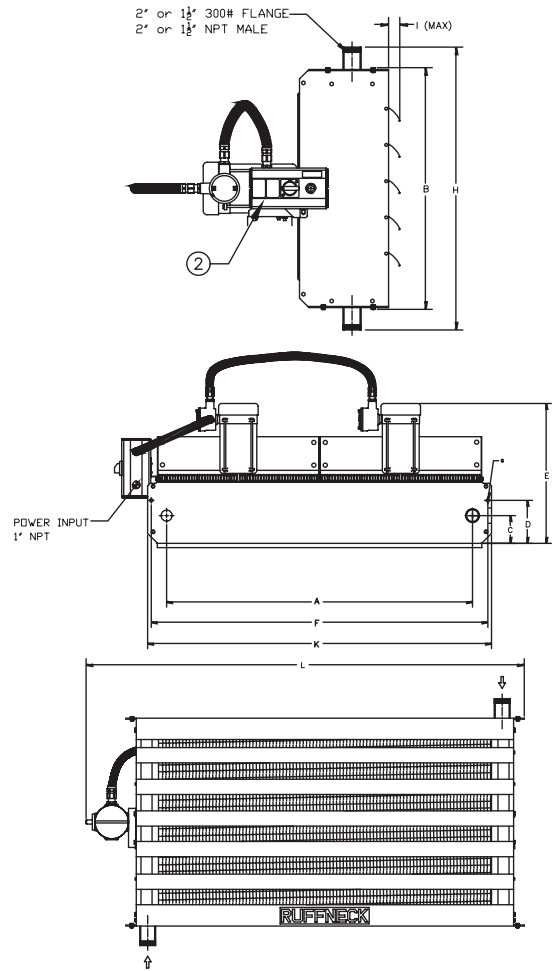

Figure 3
- 2.2 Heater cabinets are designed to be mounted from the top or bottom using 1/2" (14 mm) bolts. For heater dimensions, see Figure 2, page 5 for single fan or Figure 3, page 6 for 24" tandem.